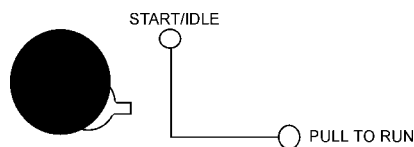

Figure 46. Engine Throttle Lever (High)
9. Pull and turn the engine throttle lever (Figure 46) to increase the engine speed to high.